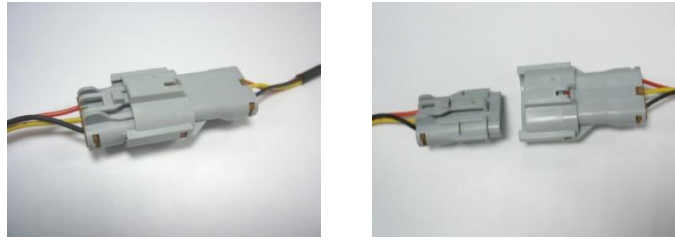

Figure 9.1.3: Disconnect the power cables of the cooling fan
- C) Taken out the cooling fan, and then disconnect the power cable of the cooling fan as shown in Figure 9.1.3.